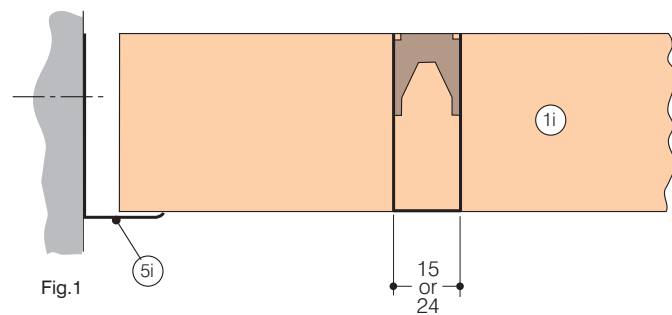
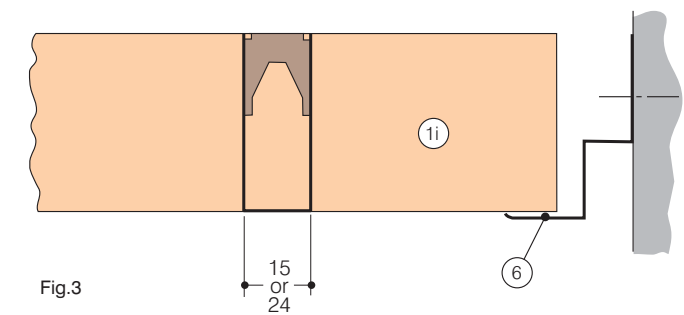

Fig.1
Fig.3
Either of the perimeter angles (5i) Fig.1 and (6) Fig.3 can be used to cloak Gridal 15 and Gridal 24 cut components at (continued below)